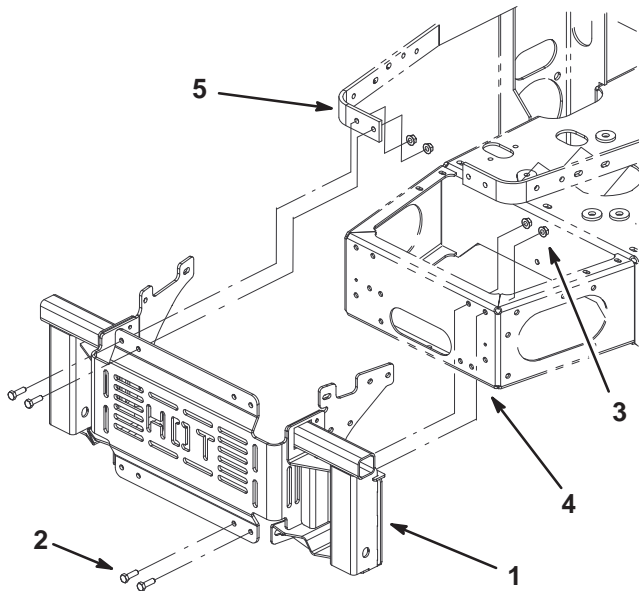

Figure 9
1. Loosely install the bagger mounting bracket to the back of the rear bumper and the engine guard straps, with 8 bolts (5/16 x 1 inch) and 8 flange nuts (5/16 inch) (Fig. 9).